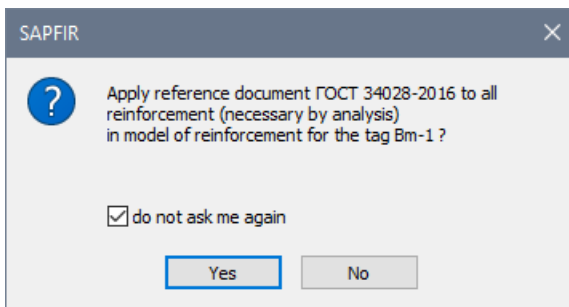

Figure 27.31. SAPFIR message box
- ⇒ In the SAPFIR message box (see Fig. 27.31), select the **do not ask me again** check box and click **Yes**.